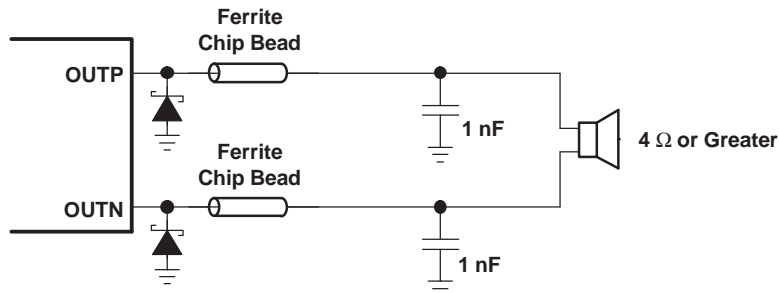
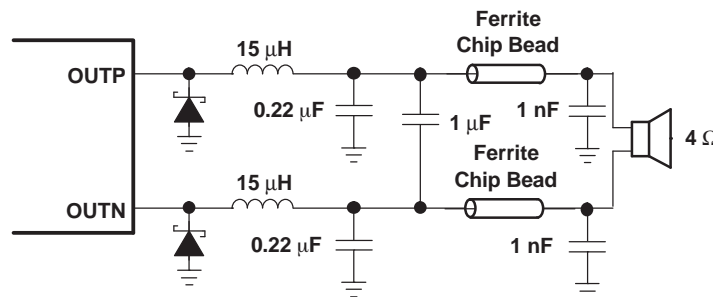
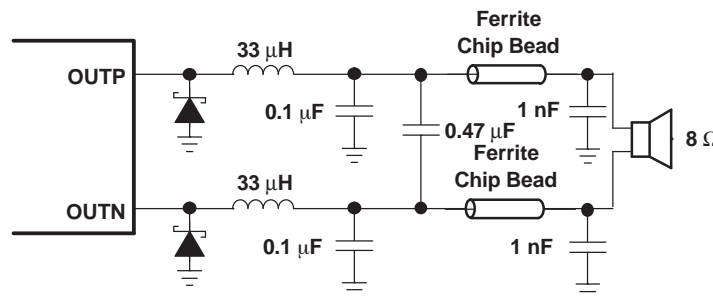

Figure 34. Typical Ferrite Chip Bead Filter (Chip bead example: Fair-Rite 2512067007Y3)
Figure 35. Typical LC Output Filter for 4-Ω Speaker, Cutoff Frequency of 27 kHz
Figure 36. Typical LC Output Filter for 8-Ω Speaker, Cutoff Frequency of 27 kHz
A ferrite bead filter (shown in Figure 34) should be used in order to pass FCC and/or CE radiated emissions specifications and if a frequency sensitive circuit operating higher than 1 MHz is nearby. The ferrite filter reduces EMI around 1 MHz and higher (FCC and CE only test radiated emissions greater than 30 MHz). When selecting a ferrite bead, choose one with high impedance at high frequencies, but very low impedance at low frequencies.
Use an additional LC output filter if there are low frequency (<1 MHz) EMI sensitive circuits and/or there are long wires (greater than 11 inches) from the amplifier to the speaker, as shown in Figure 35 and Figure 36.
- Output filter — The ferrite filter (Figure 34, page 18) should be placed as close to the output terminals (pins 10, 11, 14, and 15) as possible for the best EMI performance. The LC filter (Figure 35, page 18 and Figure 36, page 19) should be placed close to the ferrite filter. The capacitors used in both the ferrite and LC filters should be grounded to power ground.